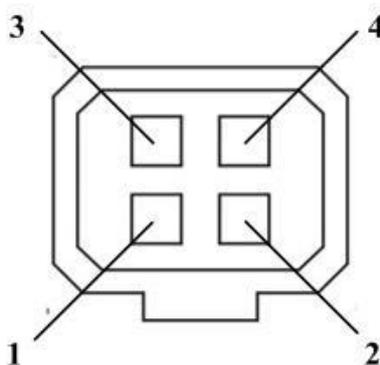

Figure 2-10 Auto-iris Interface
- The type of auto-iris interface is shown in Figure 2-10, and the definition of each pin is shown below: